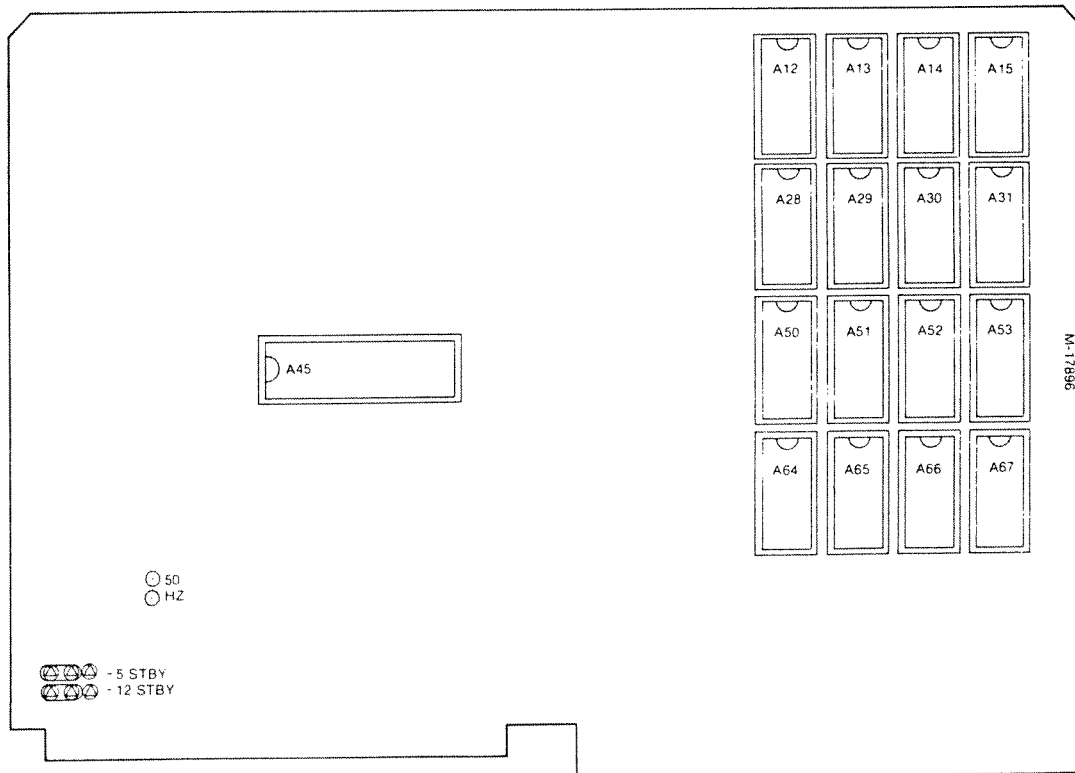

Figure B-4
2. Using a small screwdriver or an LSI chip-puller, carefully remove the 16 chips in sockets A12 - A15, A28 - A31, A50 - A53, and A64 - A67. (See Figure B-4 for socket locations.)
When inserting a chip, take care to insert it firmly into the socket without bending any pins under the chip or leaving any pins outside of the socket. Be sure that the chip is plugged in with the notch in the chip toward the top of the board; the socket has a notch at the top as a guide (see Figure B-4).